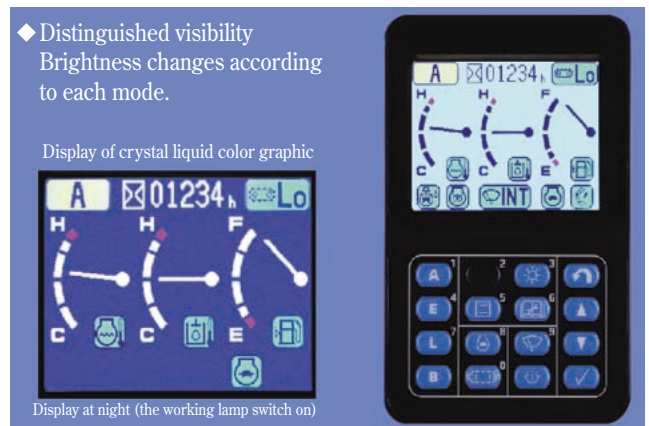

Fig. 18 Colored Multi-monitor
(1) The new machine is equipped with a liquid crystal multi-colored monitor which has drastically increased display information. It is expected to enhance its display intelligibility and to widen the versatility. Better intelligibility has been made possible with the standard display not only by using merely characters and symbol marks, but also enlarging their sizes and adopting various colors. An analog type engine cooling water temperature gauge, hydraulic oil temperature gauge and fuel gauge are arranged in series in the display. Now too bright a display is disturbing to the work at night. For this reason, the working lamp switch is so designed as to double as a display brightness selector switch, which allows an operator to select a display exclusively for the night. (See Fig. 18)